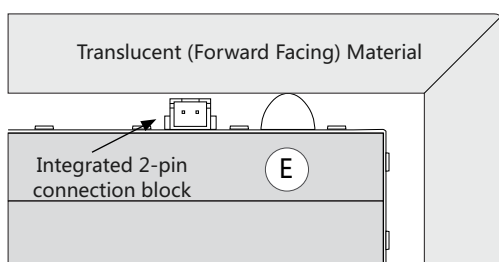
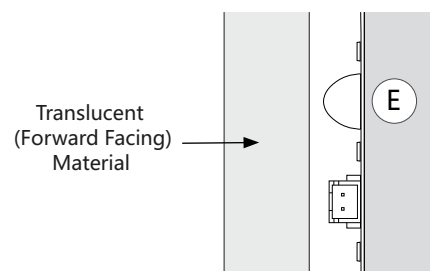

Figure 4
Figure 5
Domed spacing bumpers (E): The domed spacing bumpers (E) included with each Light Sheet have been engineered to bear the weight of translucent materials in horizontal applications and act as a safeguard in vertical applications so that the forward facing material does not harm the 2-pin connection blocks nor the LEDs. recommends using eight bumpers per Light Sheet (approximately six per square foot), spacing them evenly to distribute the weight of the forward facing material (see Figure 4) and to add a level of protection in vertical applications when the forward facing material will be positioned near the Light Sheet (see Figure 5).